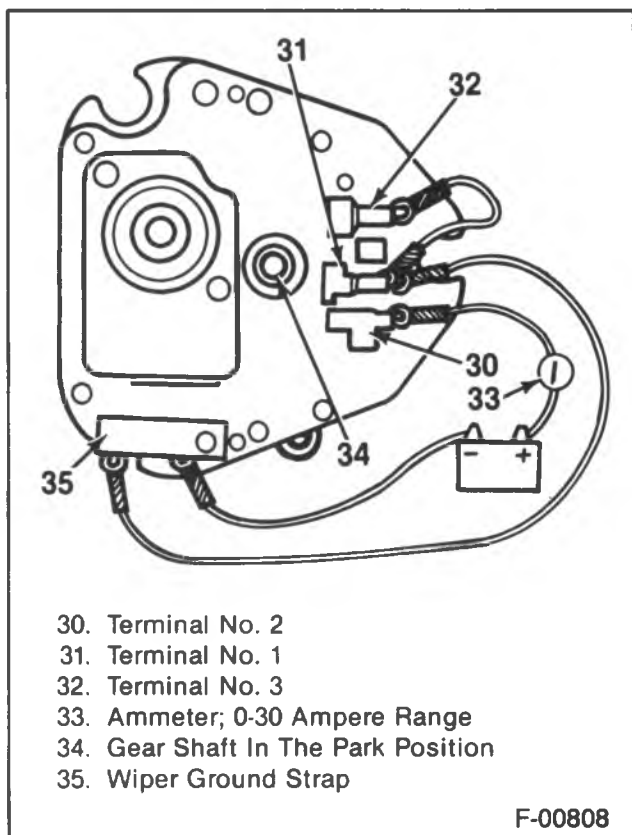

Figure 38 — Jumper Connections — Low Speed
3. Disconnect wiring harness from wiper and try operating wiper as shown in figures 38, 39, and 40.